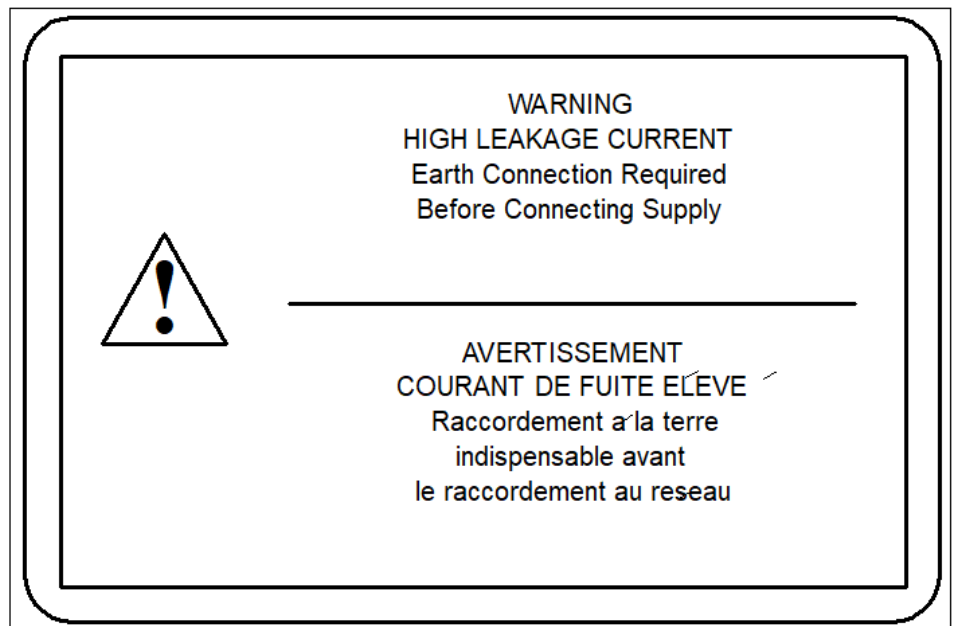

Figure 16: High leakage current label
- 1) At the back of the base cabinet, place the cable channel against the cabinet as shown in Figure 16.